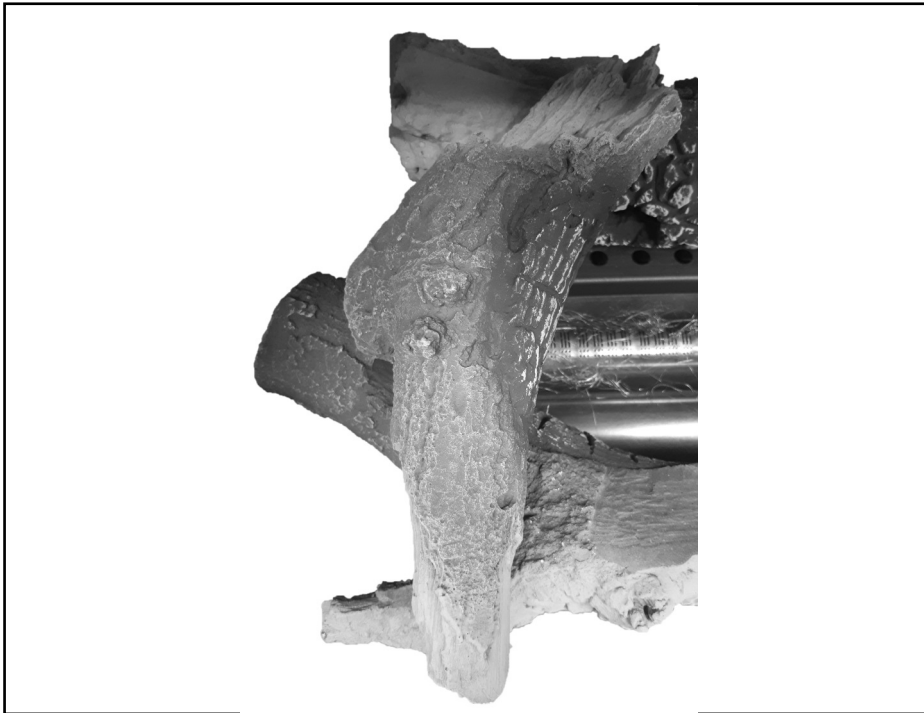

Fig. 5
5. Place Log '5' so that it is resting on Log '4' and to its rear on Log '1' as shown in fig.5.